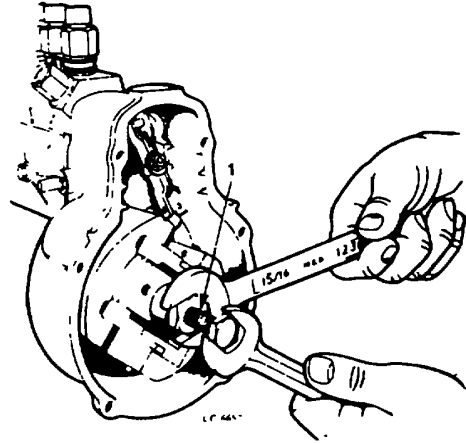

Figure 13. Removing Governor Flyweight Assembly
13. Install SE-2340 governor flyweight remover tool (Figure 13) and remove flyweight assembly. Since governor weight assembly is serviced as a complete unit, no further disassembly is required until rebuild.